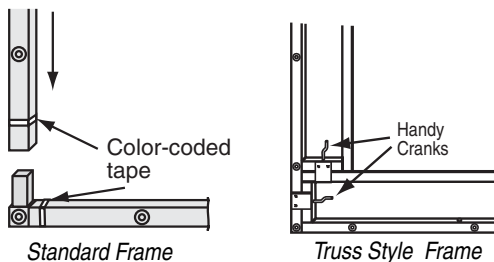

Figure 1
- ① Lay out frame pieces on floor, by matching up color-coded tape near corners. Snaps should be facing up.
- ② Assemble frame (see Fig. 1). If necessary gently tap frame ends with a rubber mallet to make sure castings are fully seated.
- ① Unfold and lay out pieces on floor, by matching up color coded marks. Lock all hinges (see Fig. 1). Stage Left and Stage Right sections should be placed with snaps *up*. Top and bottom sections should be placed with snaps *down*.
- ② To increase frame rigidity, hinges on top and bottom sections have rivnuts marked with red and green. Insert a Handy Crank through the threadless rivnut (red) and tighten into the threaded rivnut (green).
- ③ Apply small sections marked "Stiffener Bars" to back of bottom frame section, using 8 Handy Cranks. These eliminate sag on large suspended frames. Failure to use all Handy Cranks may result in screen frame damage. Turn bottom frame section over so snaps face up.
- ④ Repeat step 3 for top frame section.
- ⑤ Join top and bottom sections to Stage Left and Stage Right, using 2 Handy Cranks on each of the 4 corners. Match numbers on white labels.
- ⑥ Attach surface (see "Surface Installation"), and suspend using appropriate materials (provided by others to meet specific installation requirements).